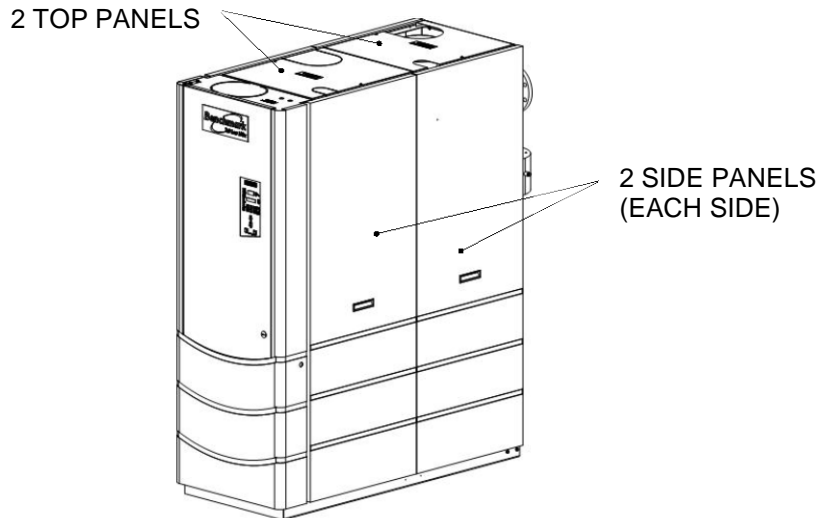

Figure 1: Benchmark 3.0 Low NO_x (LN) Boiler
5. Refer to Figure 1 and remove the top and side panels of the unit.